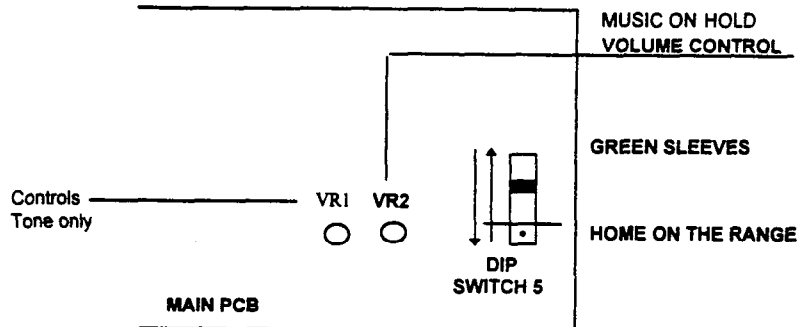

Figure 14
The internal music source of the MT-16H has two selections. To change the internal music source refer to Figure 14.
1. The MOH plug between the page and the doorphone modular plug (Figure 14) is used to turn the external music audio output on and off. The yellow/black wires perform this function. When no calls are on hold, the source is turned off. No AC voltage. DC voltage only with slave relay! KSU relay rating 24 vdc, .5 amp.
4. Locate music source a minimum of five (5) feet away from KSU to prevent RFI interference.